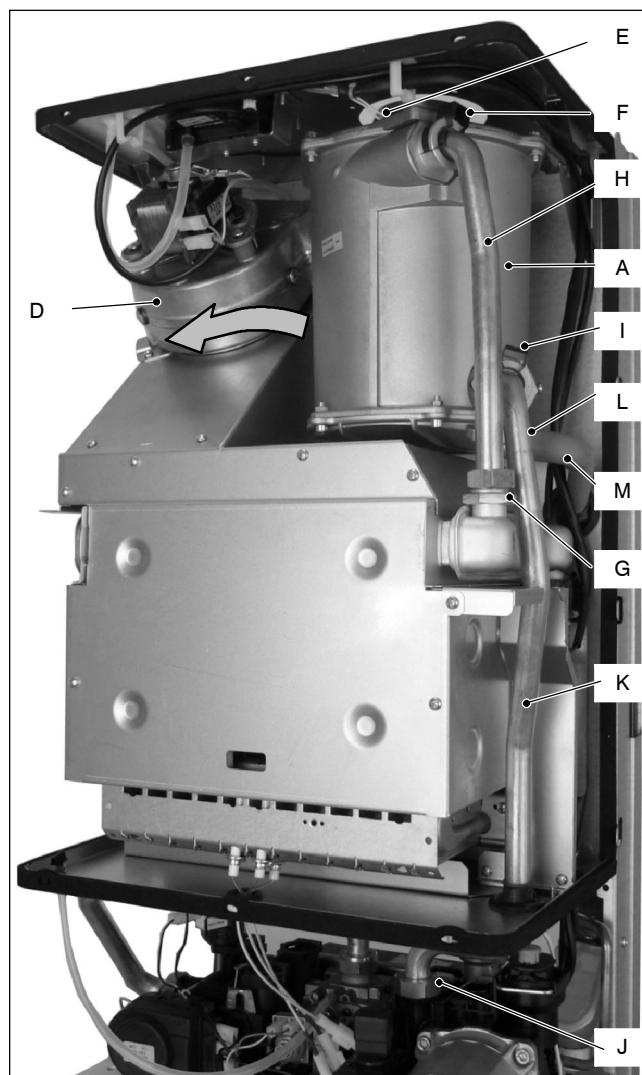

Fig. 2
- 3 Remove the fan D in Fig. 2 (see section 17.3).